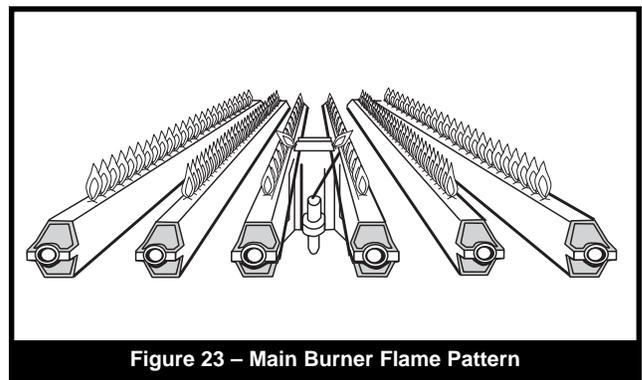

Figure 23 – Main Burner Flame Pattern
2. If a strainer is employed in a pressure reducing valve or in piping, clean it every six (6) months.
3. At start-up and every six (6) months thereafter, the pilot and main burner flame should be observed for proper performance (see **Figure 23**). See attached lighting and shut-down instructions for proper pilot flame pattern). If flame has the appearance of “sooting” tips, check for debris near orifices. Call serviceman.